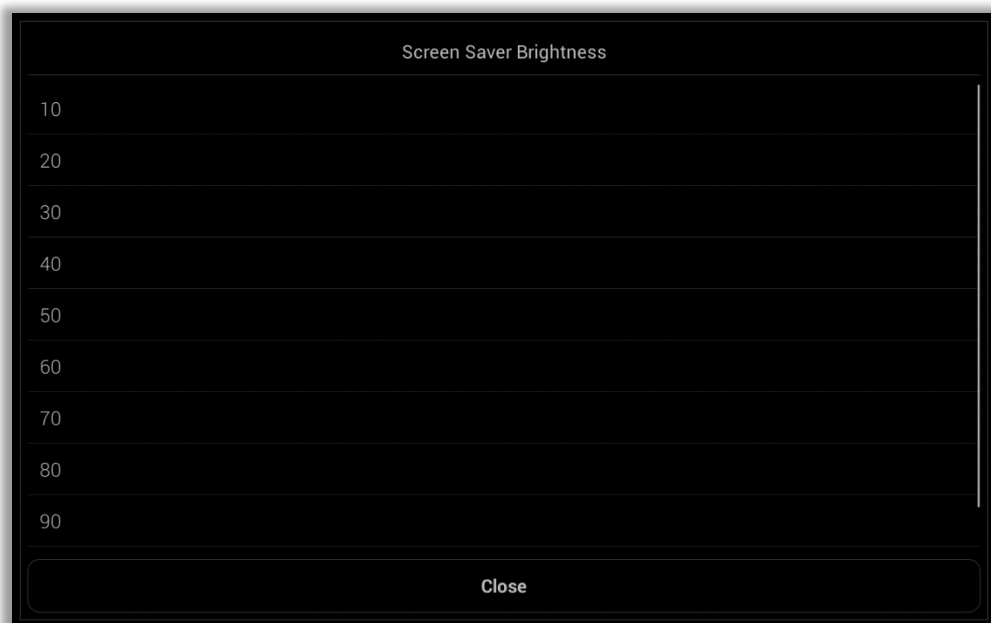

Fig. 70: Screen Saver Brightness List
- 2 By pressing this touch button, the screen saver brightness per cent is set. After pressing the button, the screen saver brightness per cent list in Figure 70 is displayed.